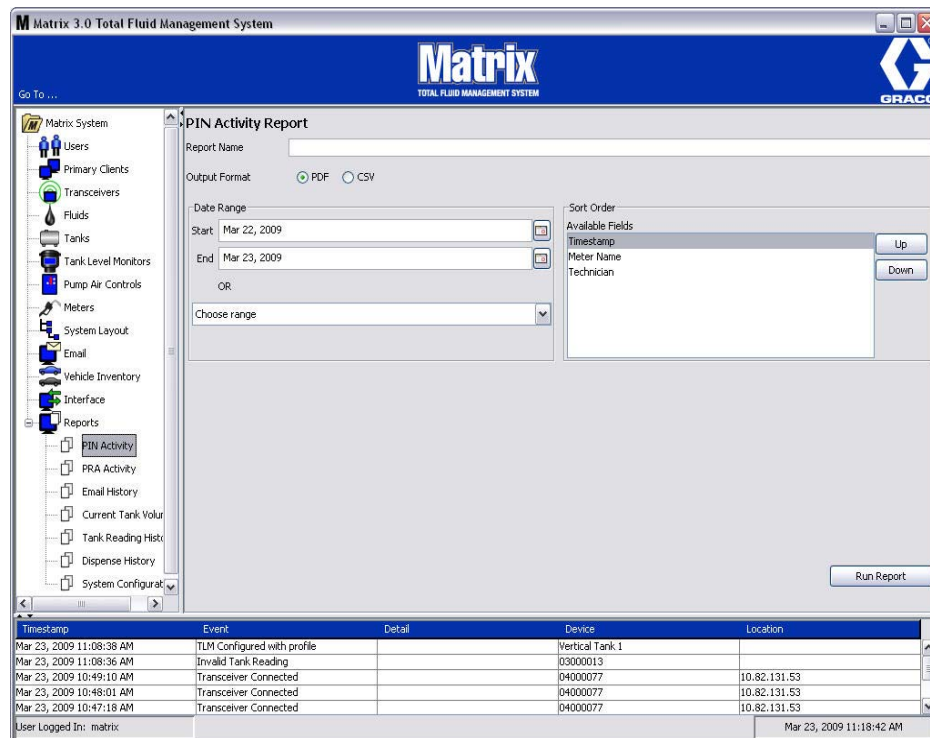

FIG. 179
- **PIN Activity (FIG. 179):**